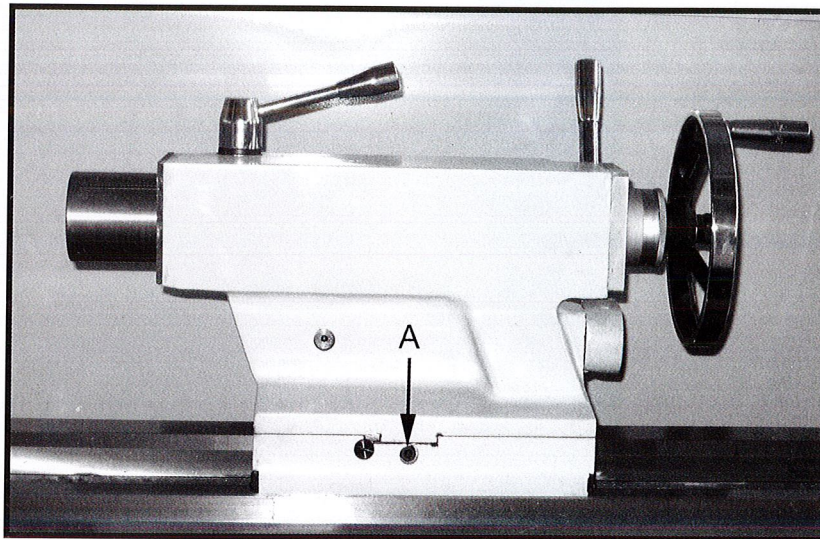

Fig.22
3. If adjustment is needed, align the tailstock using the off-set screws (A, Fig. 22) until the tailstock is aligned.